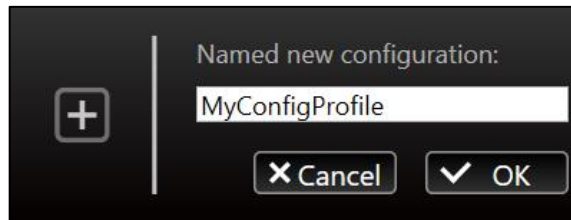

Figure 3-10
Step2: Select target printers. (Figure3-10)